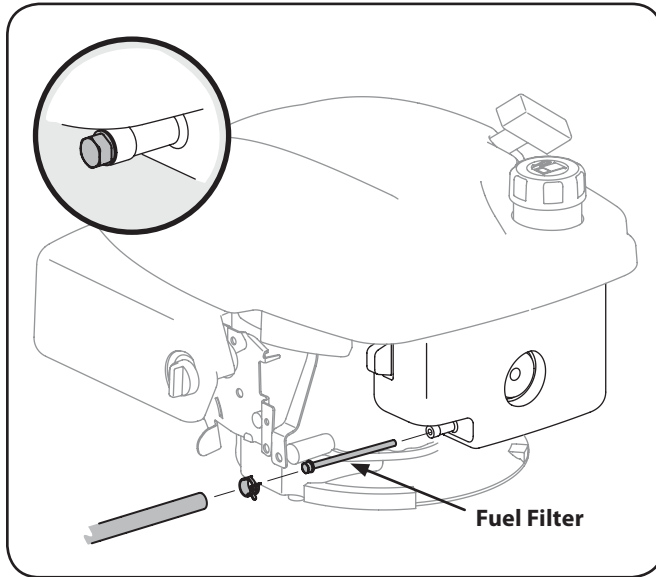

Figure 6-7
2. Remove c-clamp from fuel line and remove fuel line from tank outlet. See Fig. 6-7.